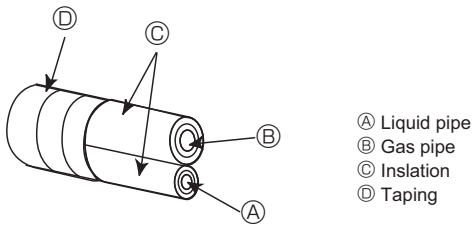
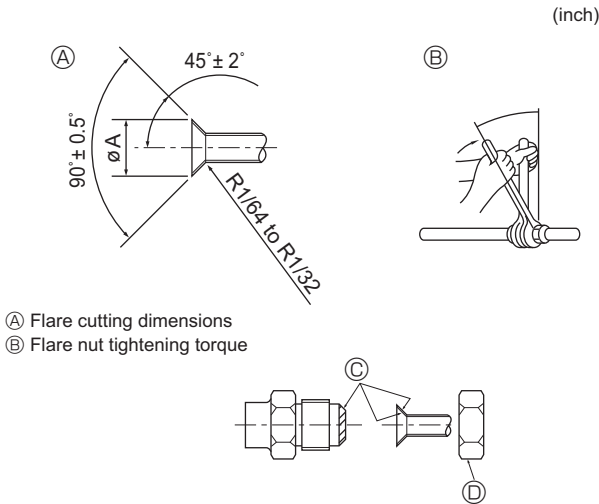

Fig. 4-1
Fig. 4-2
Ⓐ (Fig. 4-1)
Ⓑ (Fig. 4-1)
4.2. Connecting pipes (Fig. 4-1) (Fig. 4-2)
When commercially available copper pipes are used, inslate both the liquid and gas pipes separately with commercially available insulation materials (heat-resistant to 100 °C, 212 °F or more, thickness of 12 mm, 1/2 inch or more). (Fig. 4-1)
- The indoor parts of the drain pipe should be wrapped with polyethylene foam insulation materials (specific gravity of 0.03, thickness of 9 mm, 23/64 inch or more). (Fig. 4-2)